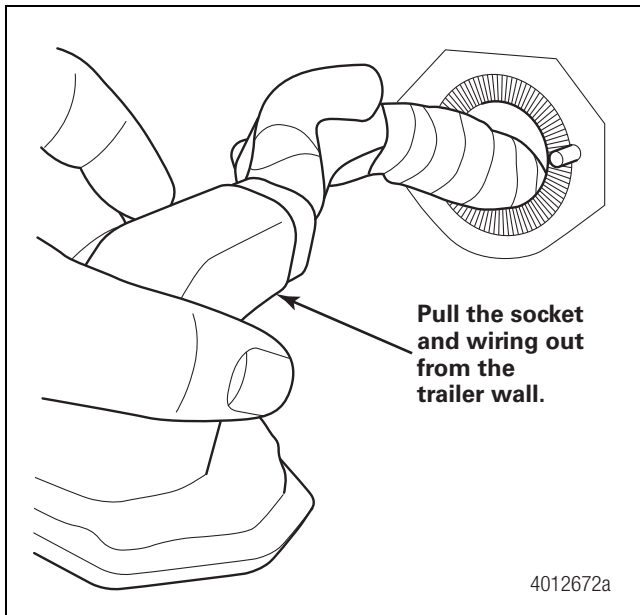

Figure 4
2. Pull the receptacle socket out from the trailer wall exposing the auxiliary wire connections. Figure 4.